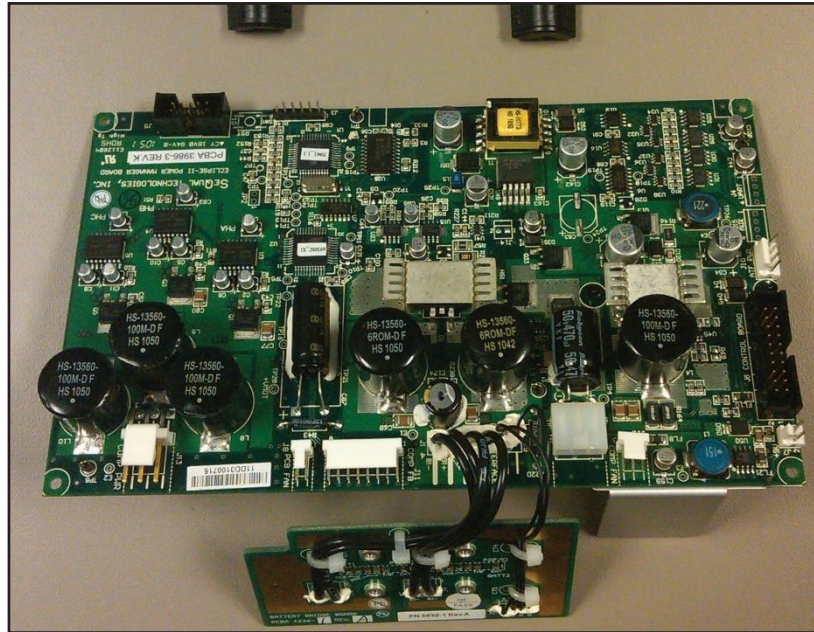

Fig 51: New Power Manager
1.7 Unbox the SP5932-4-SEQ and account for all parts (Fig 51).